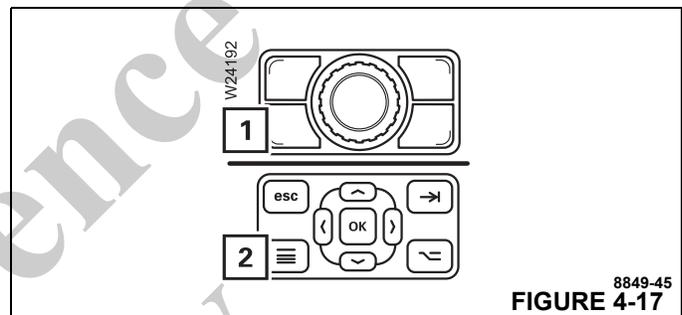

FIGURE 4-17
To do so, open the ODM main menu by pressing the button (1, Figure 4-17) or (2) once.